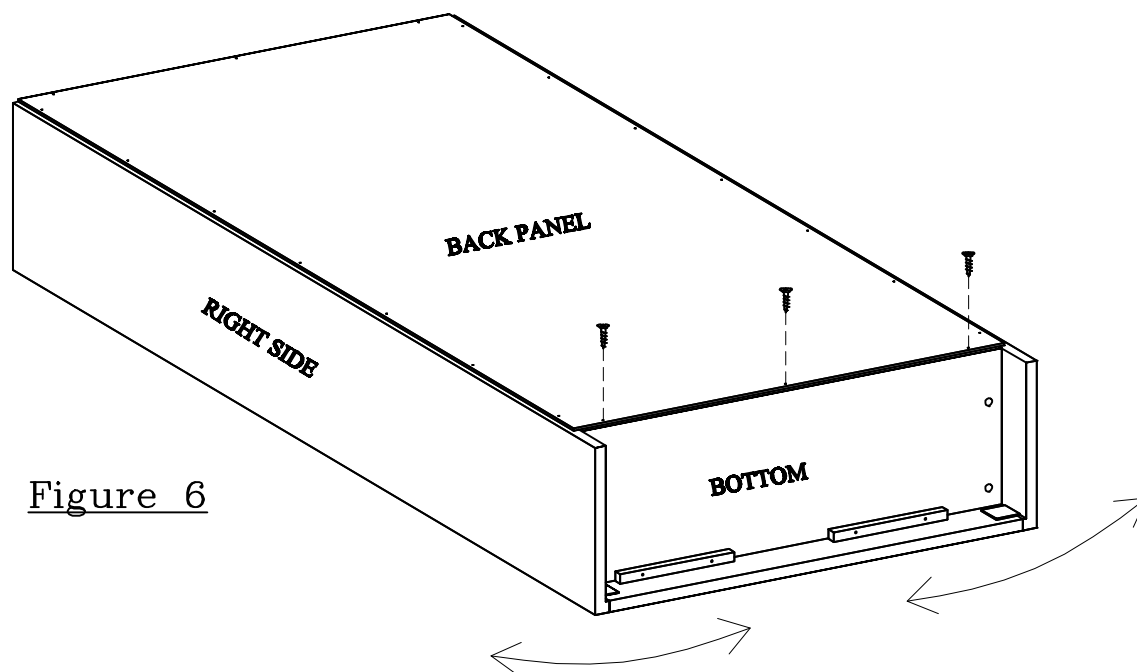

Figure 6
Step 17. Align the bottom corners of the bookcase with the corners of the BACK PANEL. If necessary, slide the corners of the bookcase to the left or to the right. Make sure the BACK PANEL does not go over the sides at the bottom corners. See Figure 6.
Step 18. Insert and screw 3 screws along the bottom edge of the BACK PANEL. See Figure 6.